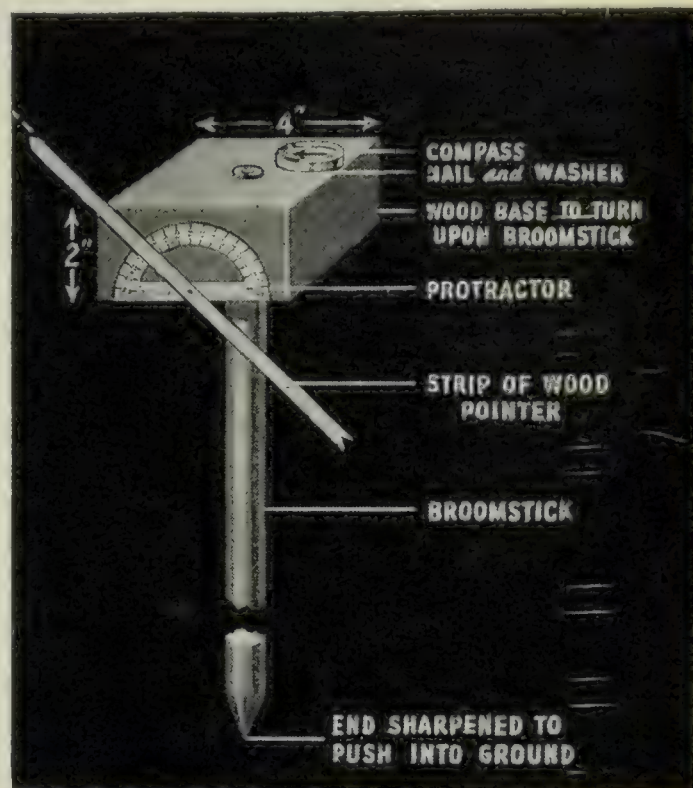

FIG. 313. Apparatus for Additional Exercise 4
4. Make a North-Star finder like the one shown in Figure 313. On some clear, dark night, go into the open where there are no trees or buildings to obscure your view. Push the sharpened end of a broomstick firmly into the ground and turn the pointer north by means of the compass.